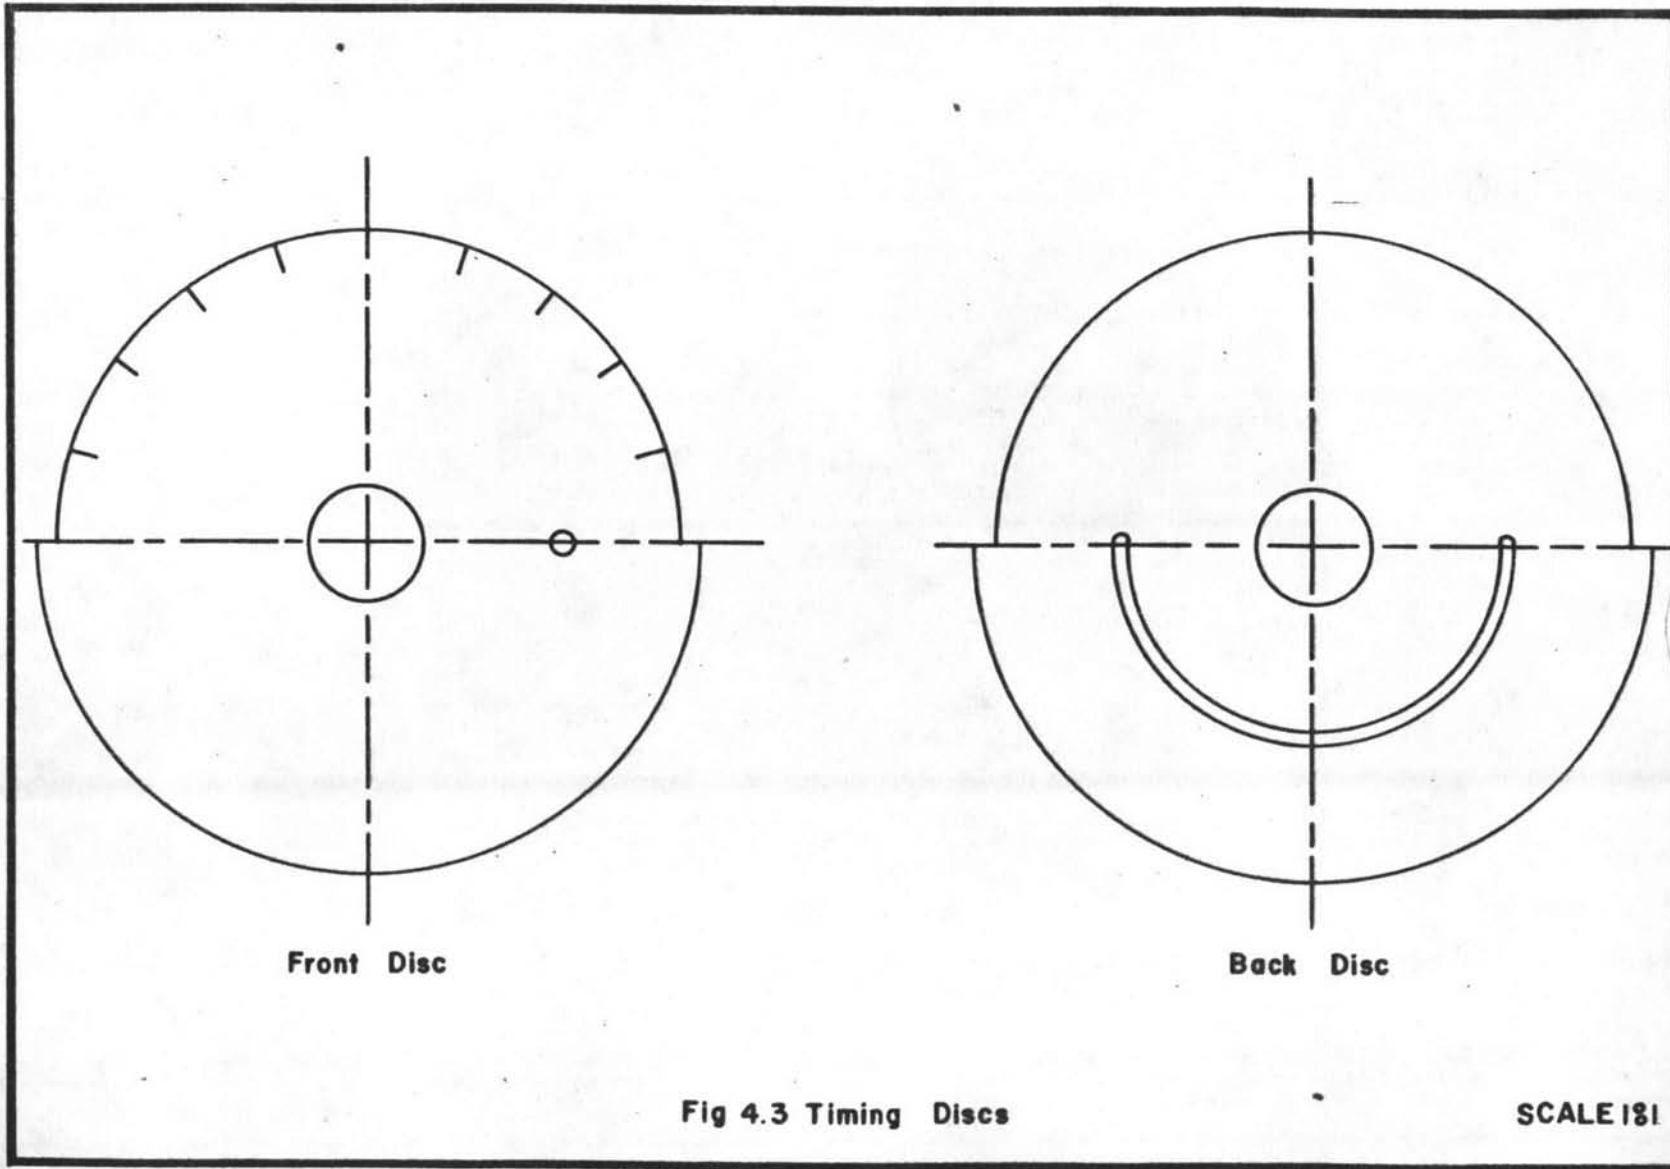

Fig 4.3 Timing Discs
2. Two sets of timing discs, each having two disc, as shown in Figure 4.3. The diameter of one half of each disc was  $3\frac{1}{2}$  inches and of the other half was  $3\frac{1}{4}$  inches. Each pair of discs was fixed tightly together by a nut on the output shaft.